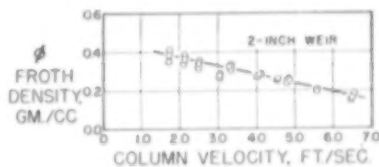

Fig. 2. Variation of froth density with gas rate.
The height of clear liquid is used in conjunction with the foam height to describe the degree of aeration of the liquid on the tray. The ratio ( $Z_o/Z_f$ ) is defined as the foam density,  $\phi$ , and is the cubic feet of un-aerated liquid per cubic feet of foam. The variation of foam density with total gas rate is shown by Figure 2. This decrease of  $\phi$  with increasing gas rate is such a complicated process that it may be discussed only qualitatively. An increase in gas rate increases the gas content of the foam by increasing the bubble volume or the number of bubbles or both. The rising velocity of the bubbles may also change. Data of Verschoor (18) indicate that the rising velocity of bubbles in a gas-liquid mixture of above 40% gas content increases as the gas content increases. Geddes points out that there exists a dynamic balance between this rising velocity and the number of bubbles (4). The degree of aeration of the liquid depends on this balance, and at present no means of predicting it has been developed. Foam density also increases slightly with increasing liquid holdup on the tray. The maximum change in foam density is only about 10%, however, if the weir height is changed from the 2-in. value shown in Figure 2 to either 1 or 4 in. The change is almost negligible at gas rates above 4 ft./sec. Because liquid holdup varies with liquid rate as well as with weir height, foam density also varies with liquid rate, but not to any appreciable extent.
The most striking characteristic of sieve-tray behavior as described by these curves is the peculiar effect of gas rate on  $N_L$ . The number of liquid-film transfer units first increases with increasing gas rate, reaches a maximum corresponding to a maximum in efficiency, and then decreases rapidly at the higher gas rates. The initial increase in efficiency at low gas rates is attributed primarily to an increase in the interfacial area per unit volume of foam. This analysis is substantiated by the behavior of the foam density,  $\phi$ , with gas rate. It is supposed that the amount of interfacial area existing in a unit volume of foam is some function of the gas holdup per unit volume of foam. As the quantity  $\phi$  represents the amount of liquid per unit volume of froth, then  $(1 - \phi)$  should be a measure of the gas holdup. The quantity  $(1 - \phi)$  increases with increasing gas rate as indicated by Figure 2, thus producing a greater interfacial area and higher values of  $N_L$ . The leveling off and subsequent decrease in tray efficiency with increased gas rate is a consequence of competing effects of changes in interfacial area and residence time of the liquid on the tray. The time of contact of the liquid with the gas has unavoidably been allowed to vary even though foam height and clear liquid rate have been maintained constant in Figure 5. This is apparent when it is noted that the nominal time of liquid residence at a given constant foam height is inversely proportional to the volumetric rate of flow of froth rather than to the volumetric rate of flow of clear liquid. The volumetric froth velocity is  $(L'/\phi)$ , that is, the volumetric clear liquid rate divided by the froth density. Since the foam density decreases with increasing gas rate, the froth velocity will increase with gas rate even though the clear liquid rate is constant. Thus, by the maintenance of clear liquid rate and foam height constant as in Figure 5, an increase in gas rate simultaneously increases the interfacial area and decreases the time of residence of the liquid.